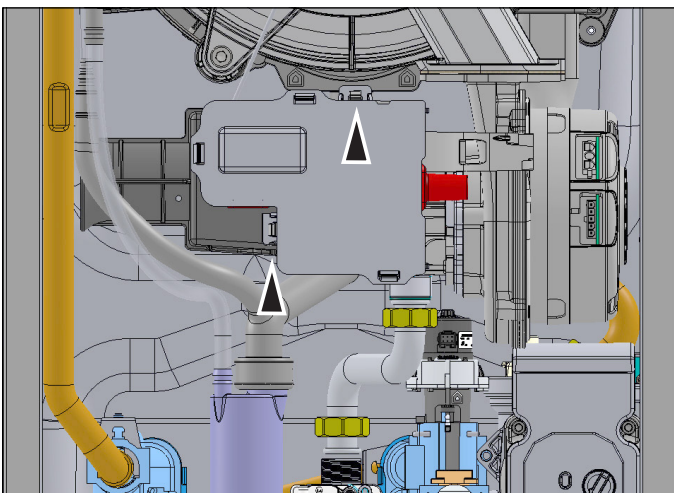

Figure 92 - Removing the Junction box
See Figure 92 to access the interior of the boiler:
3. Remove the front panel as shown in Figure 92.